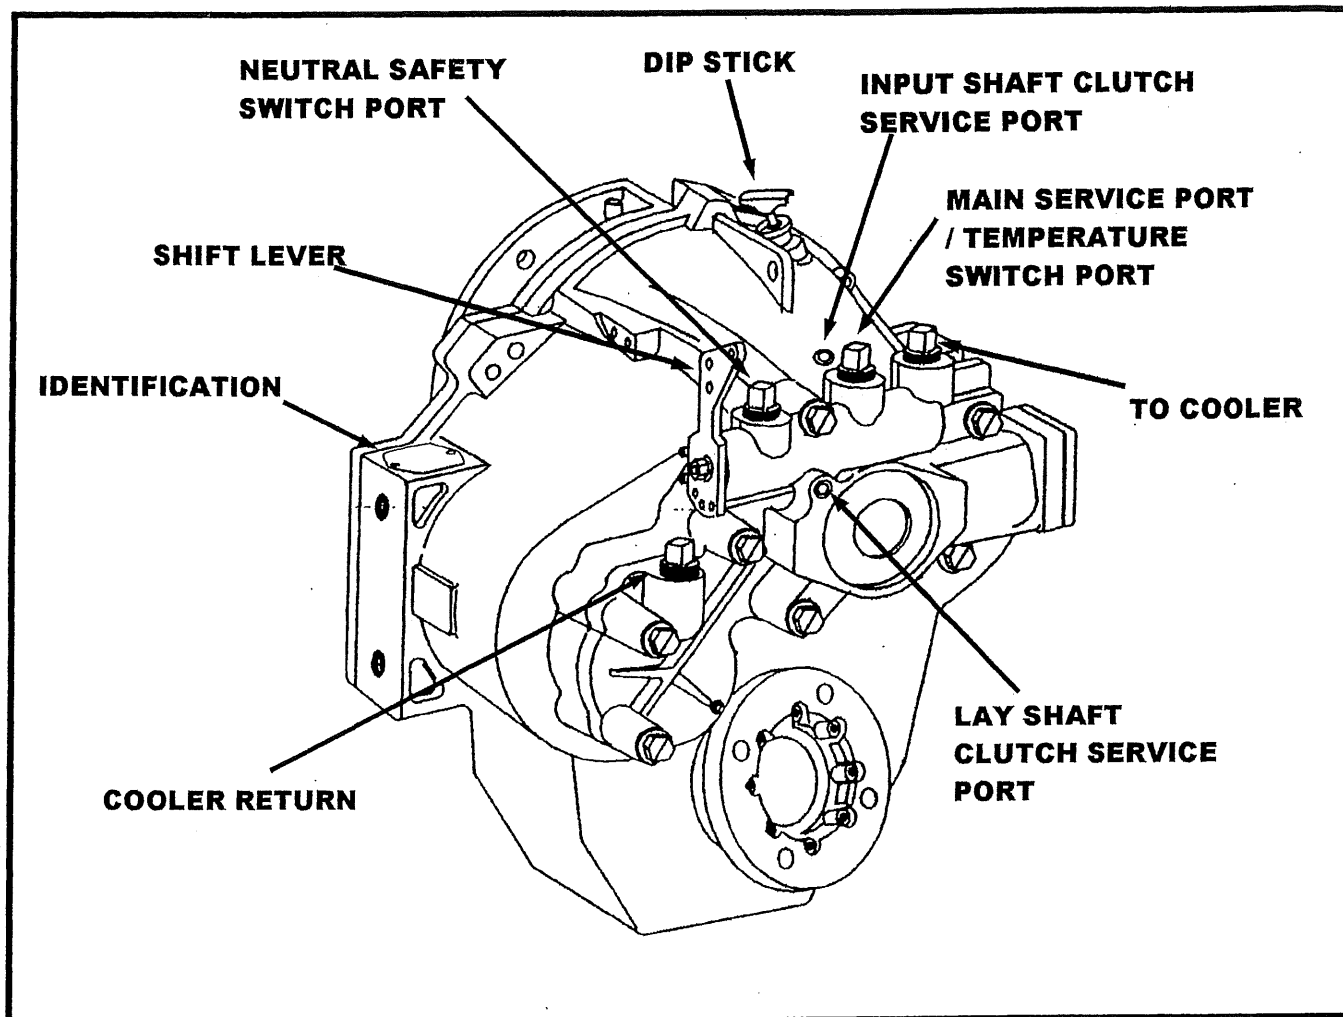

Figure 1-1. Series 5000 V-drive Marine Transmission
**PURPOSE AND SCOPE.** This manual contains preliminary information to help the technician service the Velvet-Drive® S5000 V-drive transmission (see figure 1-1) and is designed to be used in conjunction with the **Series 5000 Marine Transmission Service Manual (Form 1351/4-95)**. Service procedures for clutch and valve and pump assembly are located in Form 1351/4-95.